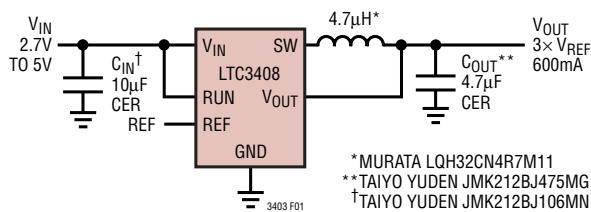

Figure 1. Typical Application
## TYPICAL PERFORMANCE CHARACTERISTICS (From Figure 1)
**TYPICAL PERFORMANCE CHARACTERISTICS** (From Figure 1)
The basic LTC3408 application circuit is shown in Figure 1. External component selection is driven by the load requirement and begins with the selection of L followed by  $C_{IN}$  and  $C_{OUT}$ .
At output voltages below 0.6V, the switching frequency decreases linearly to a minimum of approximately 700kHz. This places the maximum ripple current (in forced continuous mode) at the highest input voltage and the lowest output voltage. In practice, the resulting output ripple voltage is 10mV to 15mV using the components specified in Figure 1.
The bulk capacitance values in Figure 1(a) ( $C_{IN} = 10\mu\text{F}$ ,  $C_{OUT} = 4.7\mu\text{F}$ ) are tailored to mobile phone applications, in which the output voltage is expected to slew quickly according to the needs of the power amplifier. Holding the output capacitor to 4.7μF facilitates rapid charging and discharging. When the output voltage descends quickly in